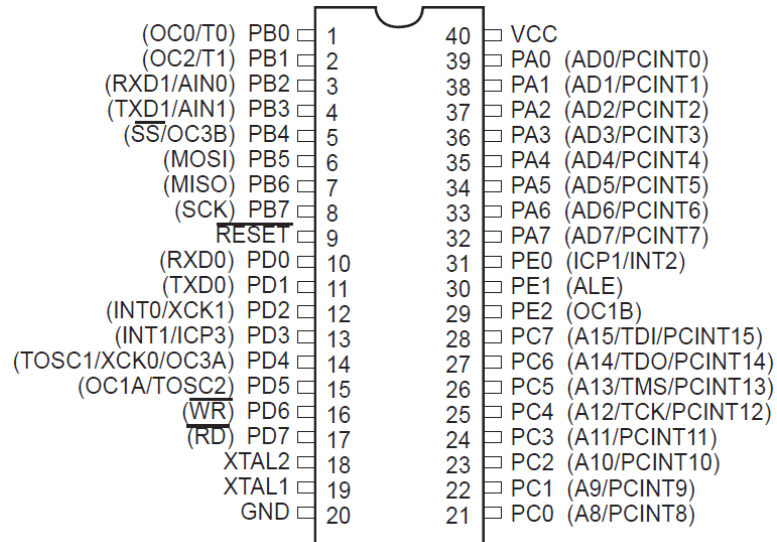

Figure 2. Atmel AVR ATmega162
- The system is constructed around a microcontroller of type ATmega162 (figure 2).